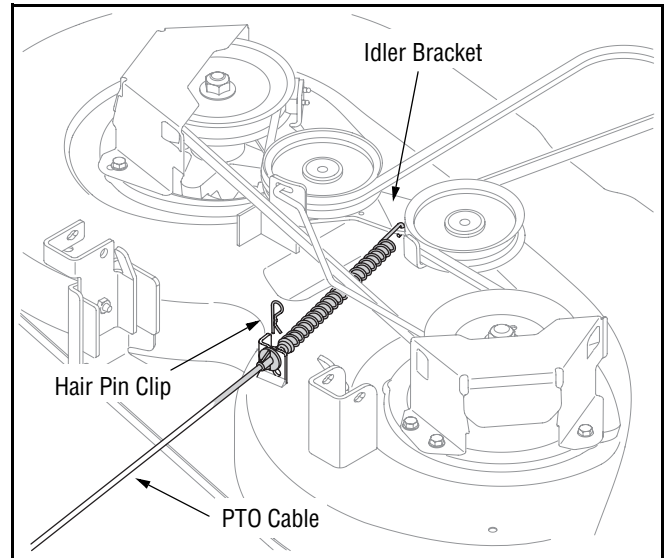

Figure 21
- Carefully remove the PTO cable from the rear of the cutting deck by removing the hair pin clip which secures it. Proceed to remove the spring from the deck idler bracket. See Figure 21.